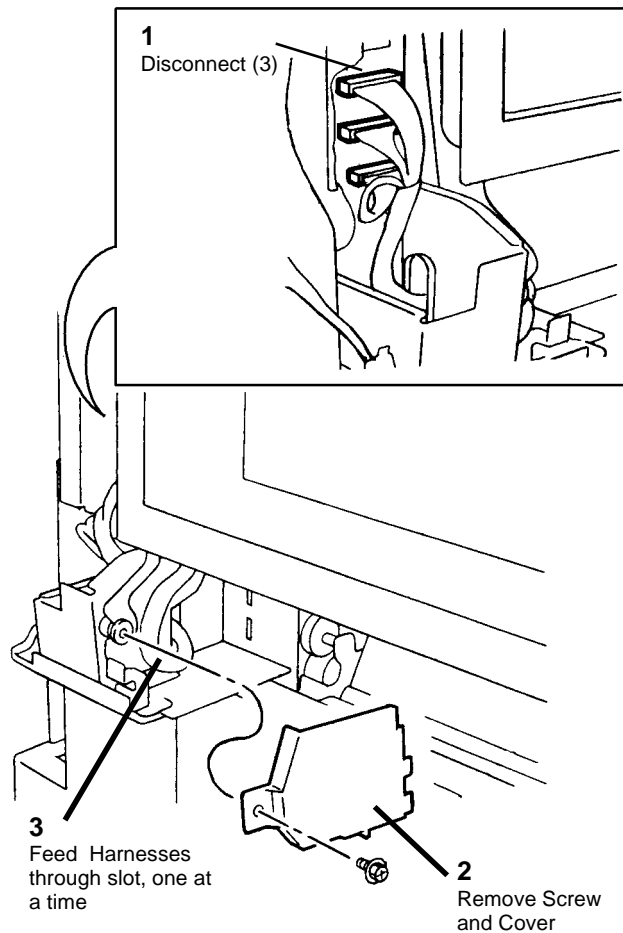

Figure 1 Disconnecting Electrical Connectors (3)
5. Disconnect the Electrical Connectors (3) (Figure 1).